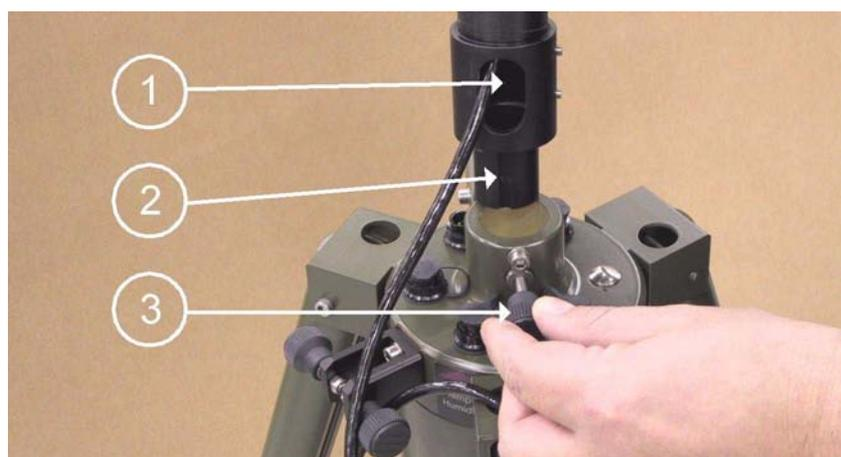

Figure 36 Attaching the Telescopic Mast
3. Attach the mast to the base. Loosen the hand screw (number 3 in Figure 36 on page 48). Guide the mast into its place with the notch (2) facing the screw. Press the mast in place and hand tighten the hand screw. Take the wind sensor cable out through the opening (1) and connect it to the connector **Wind** marked with a white arrow. Align the marks and gently but firmly press the connector down. The connector will snap in place. Do not turn the connector!